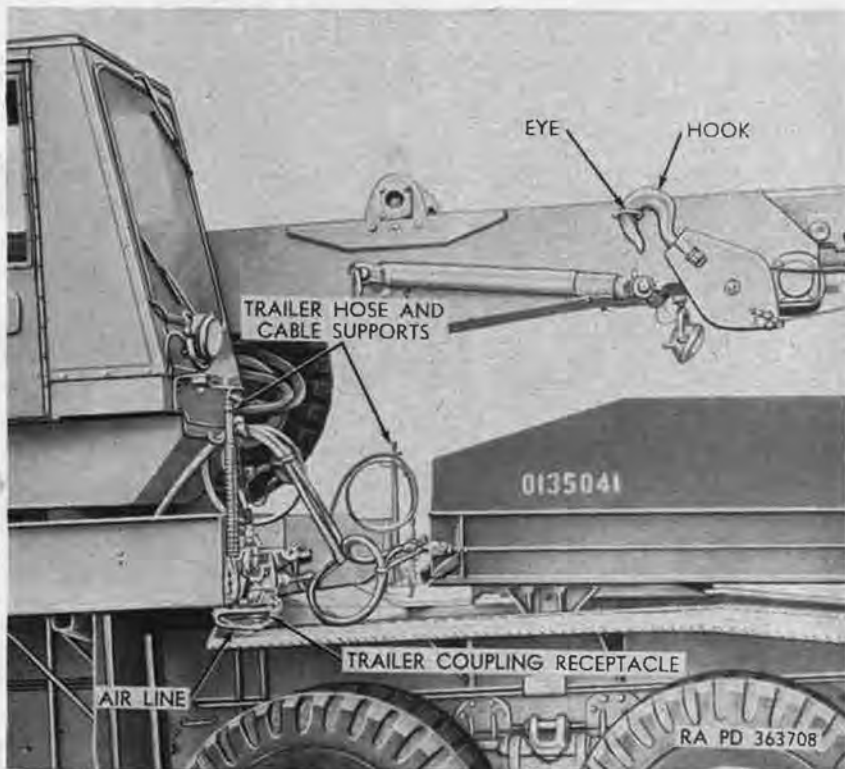

Figure 93. Wrecker crane (M246) secured for traveling with fifth wheel trailer.
- (2) *With fifth wheel trailer.* To secure the wrecker crane for traveling with fifth wheel trailer, proceed as in (1) above but do not rig shipper supports or stabilize cable hook with lifting sling. To prevent the cable hook from scraping the top of the trailer toolbox, insert the hook in the eye provided on the side of the shipper (fig. 93).